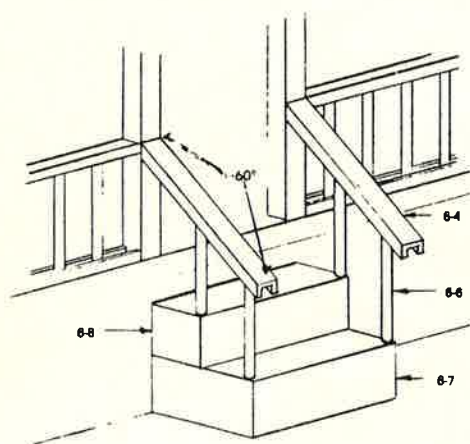

FIG. 35
17. ☐ Slip a sheet of waxed paper under the base, directly in front of the doorway. Glue the porch steps (part no's. 6-7 & 6-8) against the front edge of the base, centered in front of the doorway. As shown in Figure 35.
18. ☐ Cut two 3- $\frac{1}{4}$ inch lengths of porch railing stock (part no. 6-4) with the ends angled at 60°, as shown in Figure 35.
19. ☐ Glue the four posts (part no. 6-6) in place on the corners of the porch steps, then glue the railings on top of the posts (Figure 35).